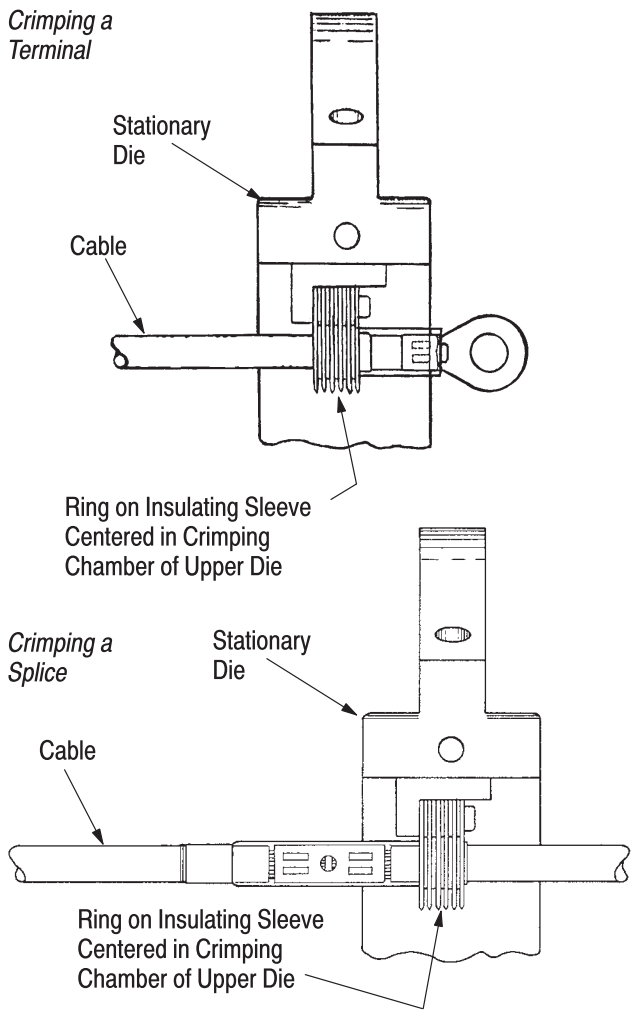

Figure 4
3. Center the ring on the insulating sleeve in the crimping chamber of the stationary die. See Figure 4.